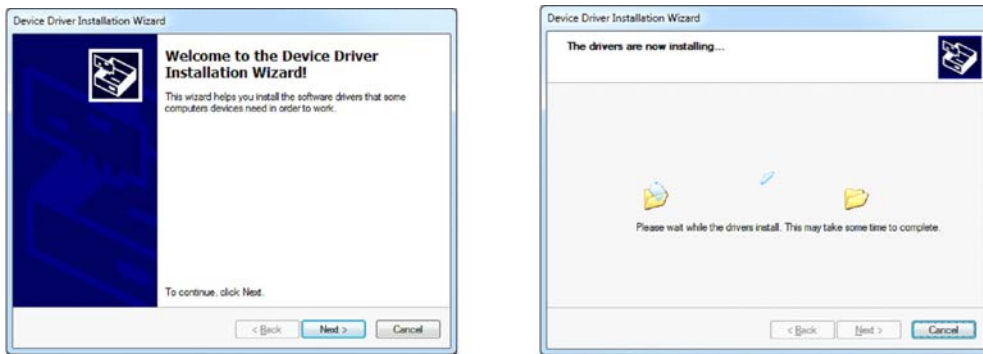

Figure 3.45. FTDI - Installation in Progress
- Click **Next** to begin installation (Figure 3.45).